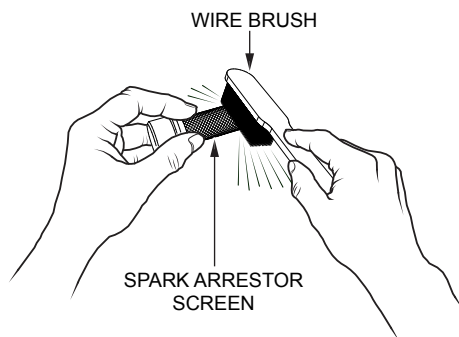

Figure 37. Cleaning The Spark Arrester
2. Remove the 5 mm screw (4) from the muffler protector, then remove the muffler protector.
3. Carefully remove carbon deposits from the spark arrester screen (Figure 37) with a wire brush.